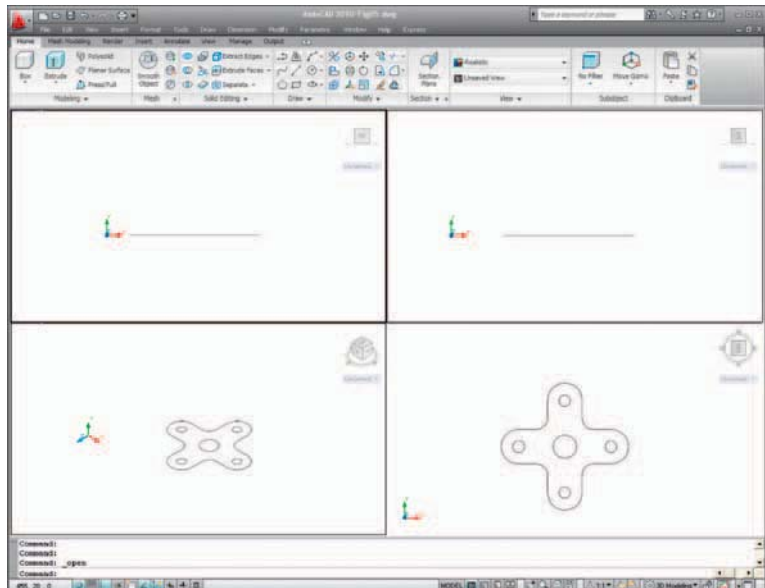

Fig. 13.5 First example – the view outlines
3. Using the **Polyline** tool, construct the outline of the plan view of the plate of the support, including the holes in the **Top** viewport (Fig. 13.5). Note the views in the other viewports.